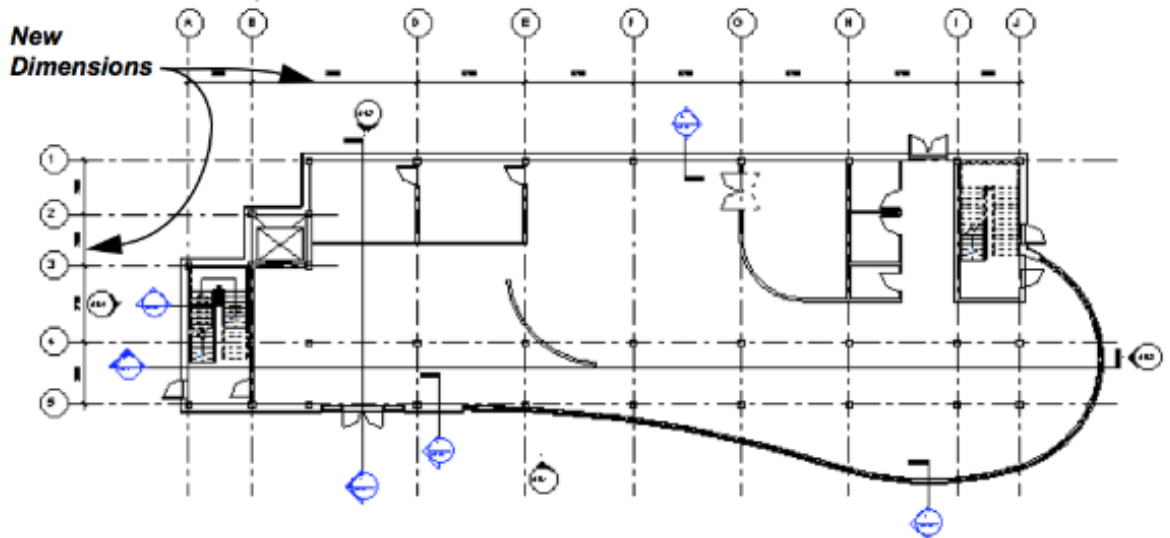

Figure 14–15
6. Dimension the column grid lines in each direction, as shown in Figure 14–15.